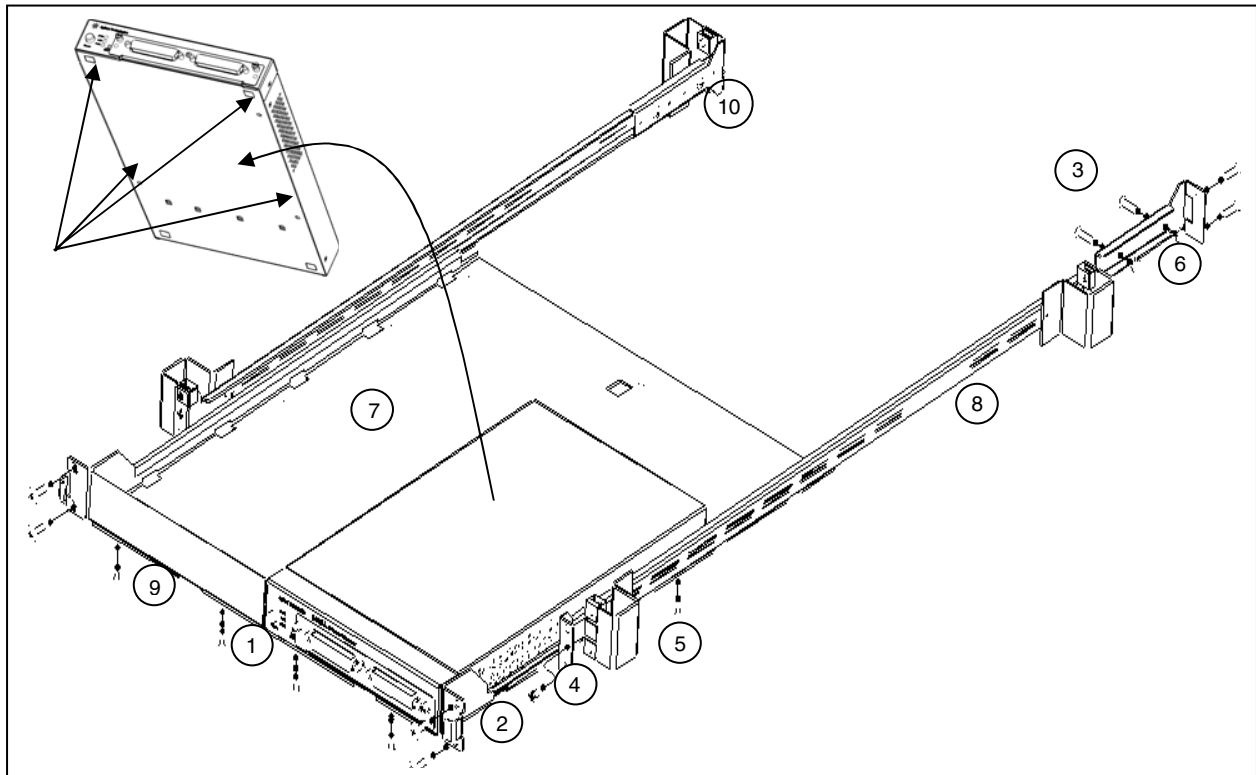
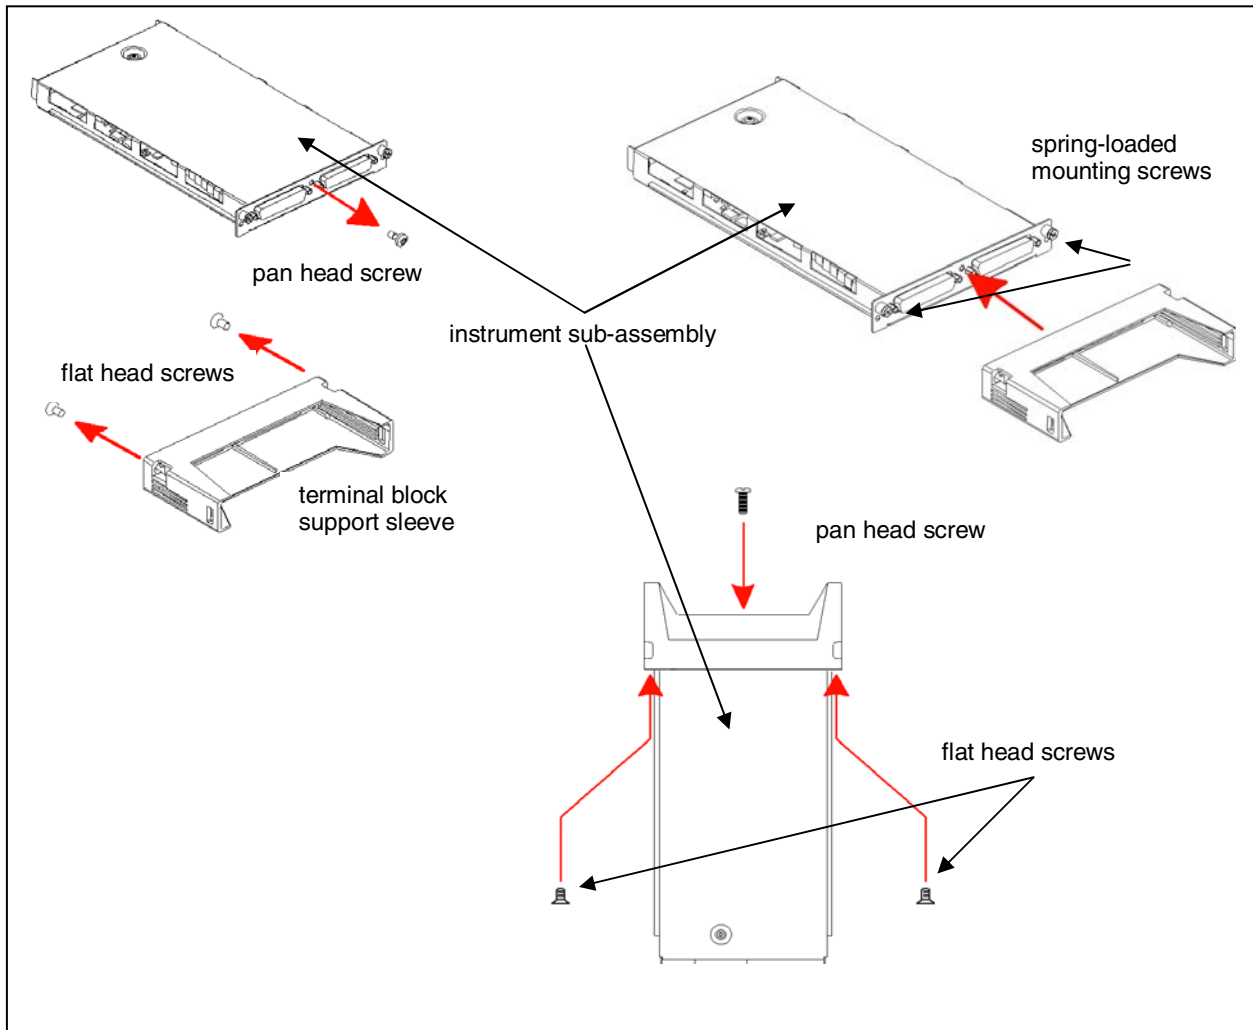

Figure 1. Y1160A Instrument Rack Mount Kit.
Figure 5. Connecting the Terminal Block Support Sleeve
Figure 1 is a composite drawing of the Y1160A sliding shelf rack mount kit. The drawing shows the location/usage of the hardware items listed in Table 1.
3. Note the location of the mounting holes on the bottom of the instrument (Figure 1). If present, remove the adhesive feet from the instrument. Place the instrument on the shelf and align the mounting holes with the holes on the shelf. Insert four M4x8 flat head screws (item 1) upward through the bottom of the shelf and into the mounting holes.
4. Install the second instrument (if present) in the shelf area adjacent to the first instrument. If only one instrument is installed, install a filler panel (item 9) on the front edge of the unused area. Insert two M4x8 flat head screws (item 1) upward through the bottom of the shelf and into the panel.
6. For instruments that have accompanying terminal blocks, partially remove the instrument sub-assembly from the instrument (carrier) by loosening the spring-loaded mounting screws (Figure 5). Remove the support sleeve from the terminal block. Locate and remove the flat head screws from the sleeve and